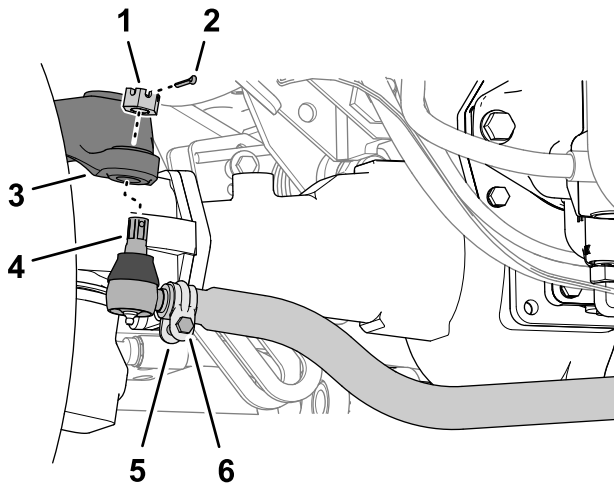

Figure 154
1. At the rear axle, remove the cotter pin and the slotted nut from either tie-rod end (Figure 154).
3. Loosen the clamps at both ends of the tie rods (Figure 154).